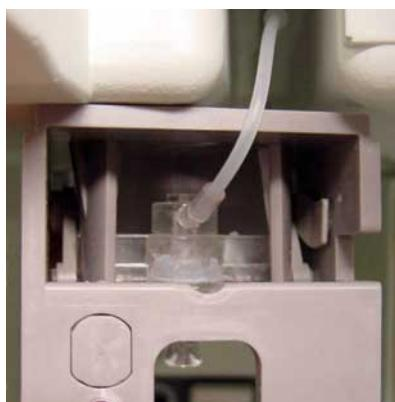

Fig. 3-70 Docking mechanism C1 and C2 (rear view)
6. Pull off the tube from the backside of the docking mechanism (see Fig. 3-70).